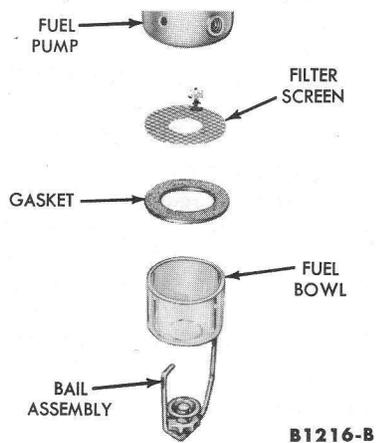

FIG. 4—Sediment Bowl Assembly
1. Place a new gasket and filter screen on the sediment bowl (Fig. 4).